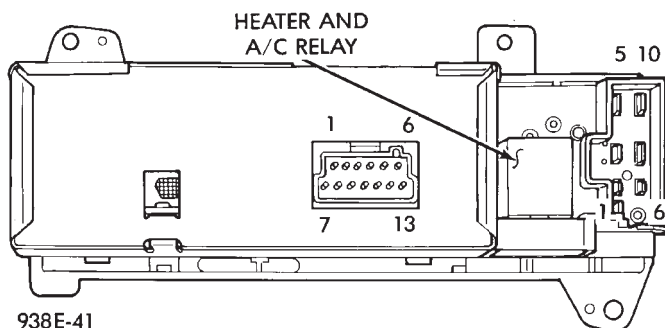

Fig. 6 Heater Control Switch Connectors
(1) Remove the control switch from console and do not disconnect control switch (Fig. 6).
(2) Turn ignition ON. Turn defogger ON.
(3) Using a voltmeter, check at Pin 5 of the 13 Pin connector, and Pin 8 of the 10 Pin connector should have battery voltage. If OK, go to Step 4. If no voltage, trace circuit upstream of control panel from problem: